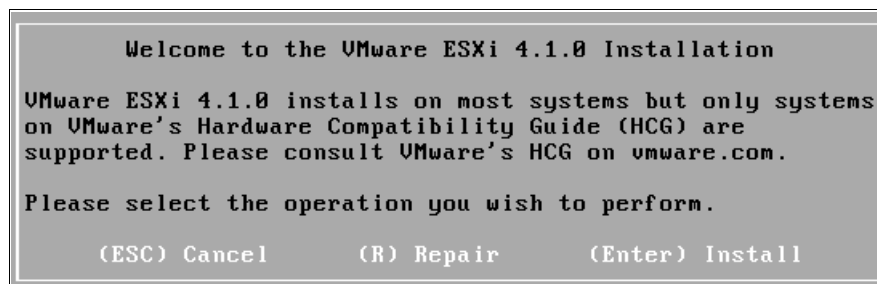

Figure 2-117 ESXi asking you to Install
2. After the initialization of the ESXi is complete, press Enter to **Install**, as shown in Figure 2-117.